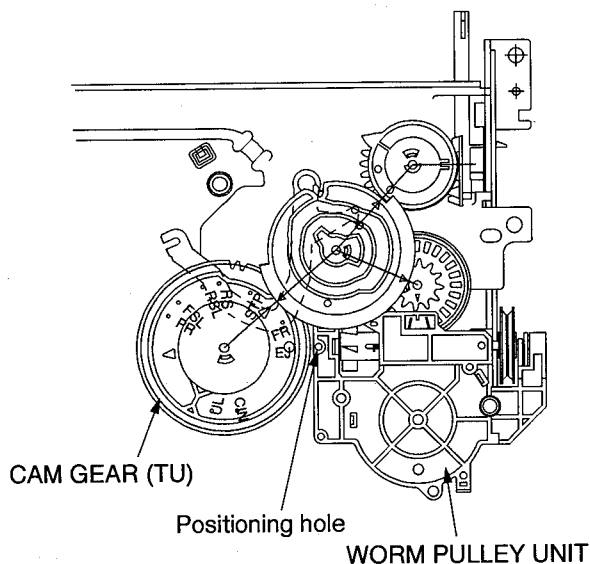

Fig. 4
- 5 Remove the three screws (d), (e) and (f) shown in Fig. 4 and raise the Shield Plate upward to remove it.
- 6 Remove the one screw (g) shown in Fig. 4 and remove the Ground Lead Wire.
1. Press the Jog + or Jog - button to align the character PR or FR of the CAM GEAR (TU) with the positioning hole of the WORM PULLEY UNIT shown in Fig. 4.